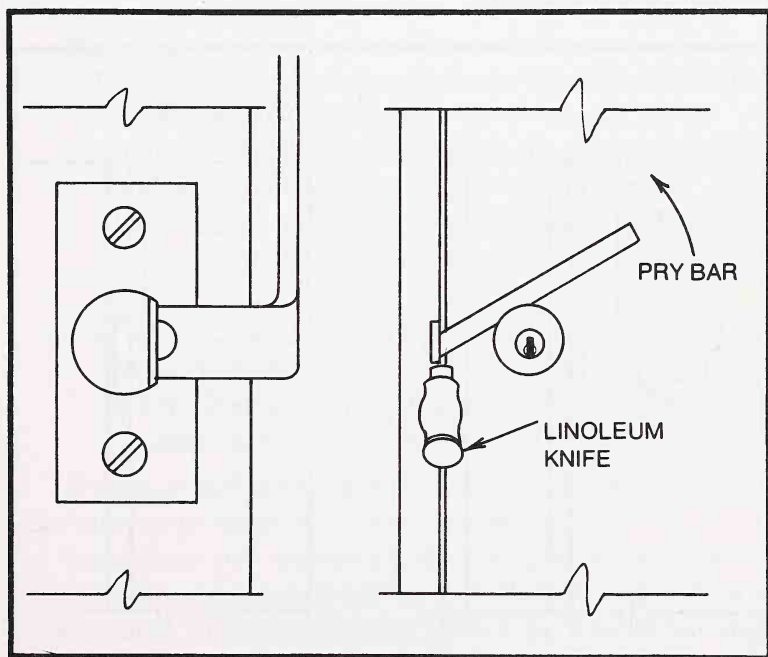

Fig. 23-5. Opening a door using a pry bar and linoleum knife. (Courtesy Desert Publications.)
2. Insert the pry bar as shown in Fig. 23-5. Exerting a downward motion on the pry bar spreads the door slightly and allows the locking safety latch to be disengaged.